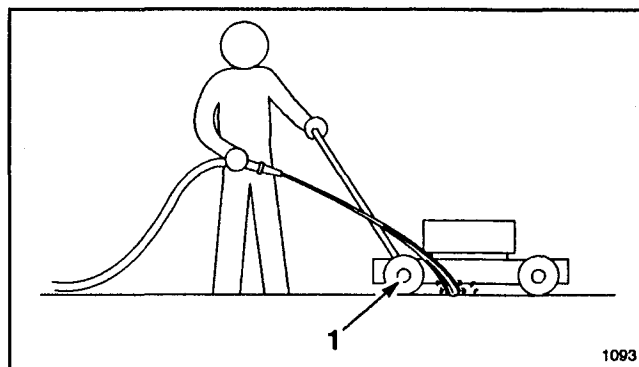

Figure 32
3. Hold the running garden hose at handle level and direct water to flow on ground just in front of right rear tire (Fig. 32). The rotating blade will draw water under the housing and wash out clippings. Let the water run for a few minutes or until you no longer see clippings being washed out from under housing.